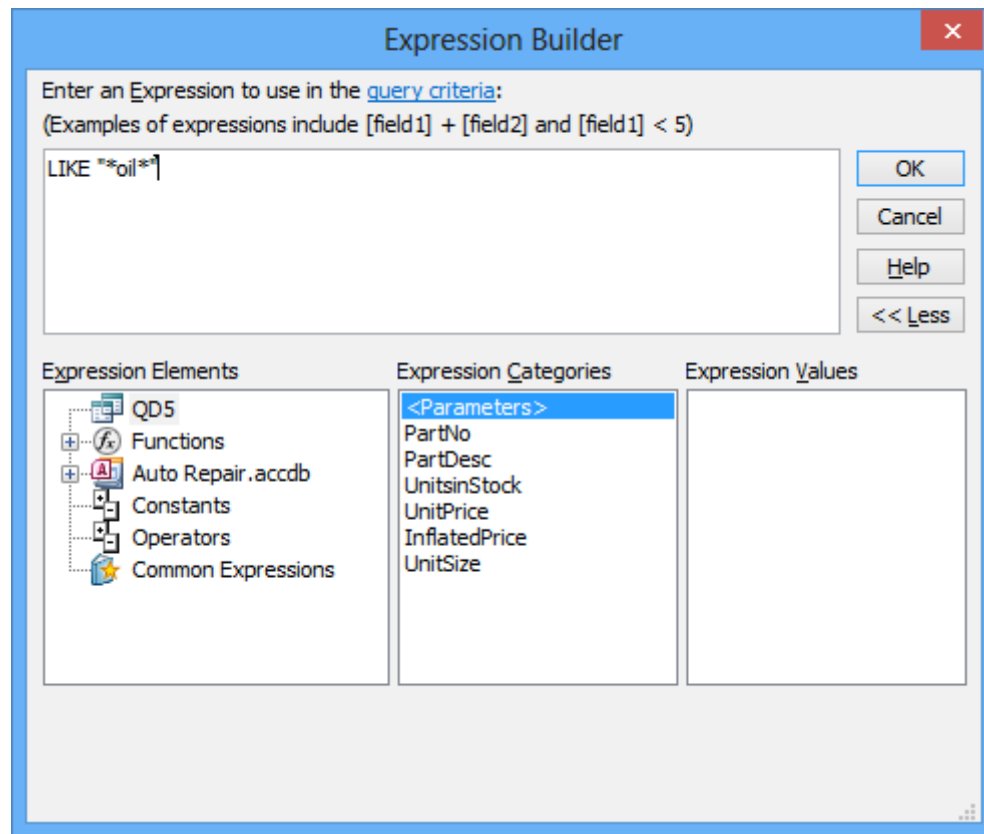

Figure 24: Expression Builder Window for “QD5”
10. Type into the Text Area: Type the expression as shown in the text area of Figure 24: